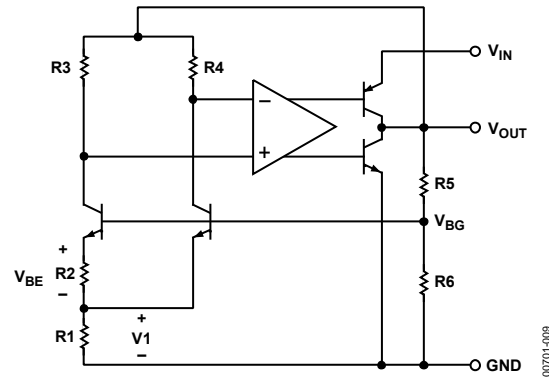

Figure 9. Simplified Schematic
The AD1582/AD1583/AD1584/AD1585 use the band gap concept to produce stable, low temperature coefficient voltage references suitable for high accuracy data acquisition components and systems. These parts of precision references use the underlying temperature characteristics of a silicon transistor's base emitter voltage in the forward-biased operating region. Under this condition, all such transistors have a  $-2 \text{ mV}/^\circ\text{C}$  temperature coefficient (TC) and a  $V_{BE}$  that, when extrapolated to absolute zero, 0 K (with collector current proportional to absolute temperature), approximates the silicon band gap voltage. By summing a voltage that has an equal and opposite temperature coefficient of  $2 \text{ mV}/^\circ\text{C}$  with the  $V_{BE}$  of a forward-biased transistor, an almost 0 TC reference can be developed. In the AD1582/AD1583/AD1584/AD1585 simplified circuit diagram shown in Figure 9, such a compensating voltage,  $V_1$ , is derived by driving two transistors at different current densities and amplifying the resultant  $V_{BE}$  difference ( $\Delta V_{BE}$ , which has a positive TC). The sum of  $V_{BE}$  and  $V_1$  ( $V_{BG}$ ) is then buffered and amplified to produce stable reference voltage outputs of 2.5 V, 3 V, 4.096 V, and 5 V.